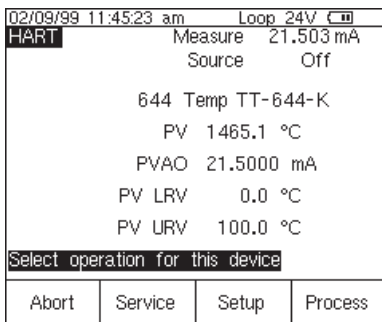

Figure 19
1. Power on the Fluke 744 Calibrator. Press the **HART** key and the **Loop Power** softkey (if loop power is not already supplied). Press **ENTER** until any device warnings are cleared and the basic HART information is displayed (Figure 19).